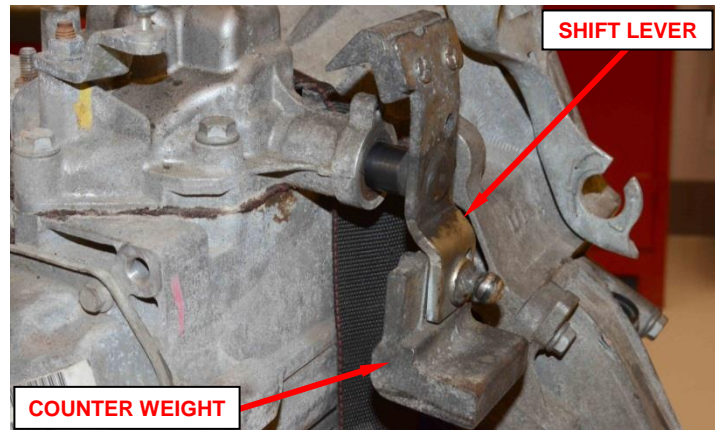

Figure 51 – Shift Lever Counter Weight
58. Remove and save the shift lever counter weight to provide some additional clearance while removing and installing the transmission (Figure 51).
89. Install the counter weight to the transmission shift lever (Figure 51).